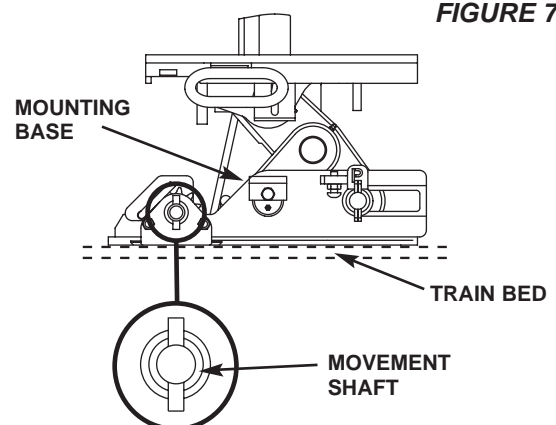

FIGURE 7
2. Place the key onto the shaft nearest to the centre of the railcar (see fig. 7).